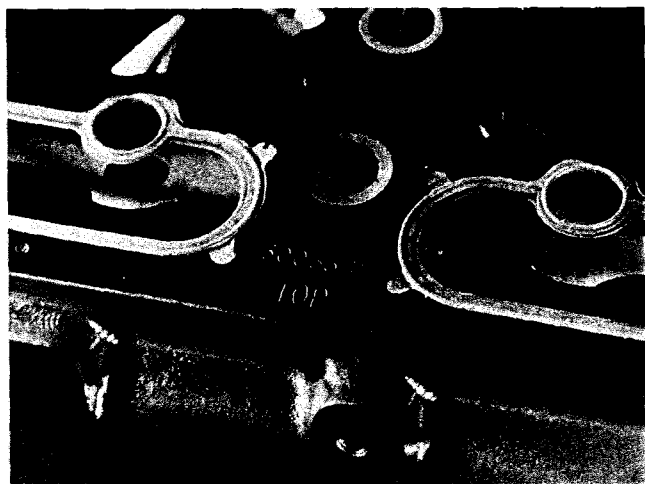

Fig. 14-20, (N114257). Installing cylinder head gasket
3. Install gasket over dowels so word "TOP" on gasket is visible. Fig. 14-20. Use gasket with standard (white) grommets (0.097 to 0.103 inch [3.8 to 4.1 mm] thick) if water holes are free of erosion. Use service (black) grommets (0.107 to 0.113 inch [4.2 to 4.4 mm] thick) if there is evidence of erosion. No grommet retainers are required. Install ferrels in oil drain holes (if used).